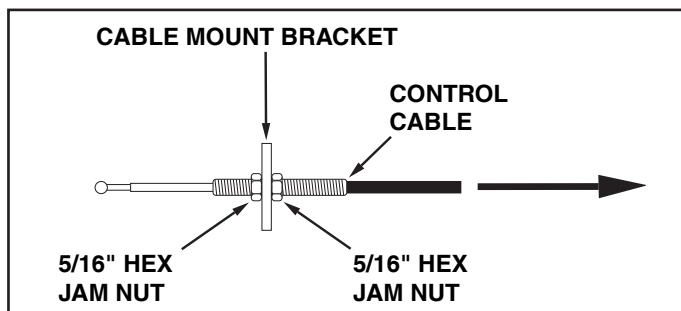

FIGURE 15
3. If the blade will not unlock and pivot, the angle lock bars are not disengaging from the slots in the pivot plate. To correct, adjust the 5/16" hex jam nuts to draw the end of the control cable back towards the cable mount bracket. The less the threaded end of the cable extends through the bracket, the more the angle lock bars can retract to disengage from the slots in the pivot plate. See figure 15.